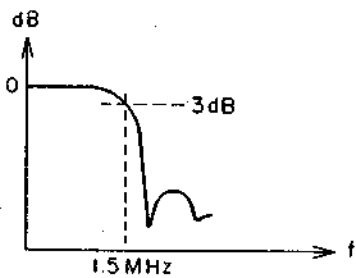

Fig. 86
REC LPF LCB-58 is to take out only low chroma signal from the frequency converted signal (Pin ⑫), and the characteristic is shown in Fig. 86.